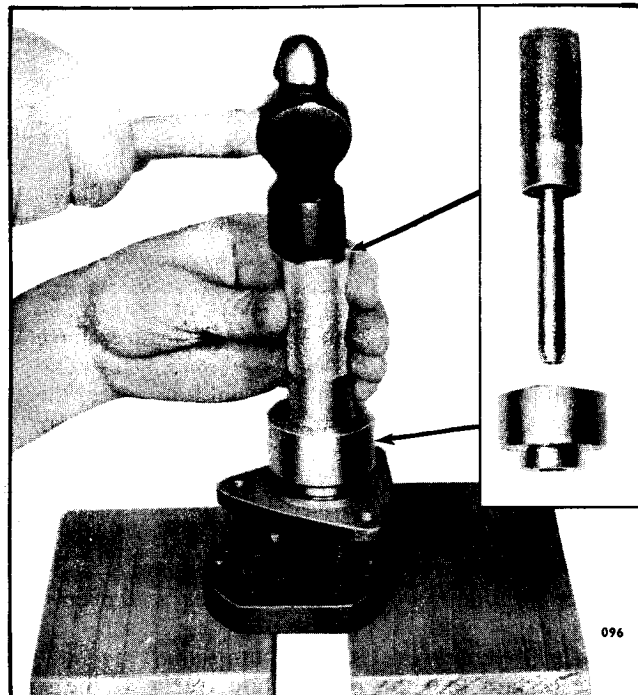

Fig. 8 - Installing Outer Oil Seal using Tools J 1508-8 and J 1508-9
- c. Place the shorter end of the adaptor J 1508-9 over the pilot and against the shoulder of the installer handle. Place the outer oil seal on the pilot of the installer handle with the lip of the seal facing the adaptor. Then insert the pilot of the installer handle into the pump body and drive the seal in (Fig. 8) until the shoulder of the adaptor contacts the pump body. Thus the oil seals will be positioned so that the space between them will correspond with the drain holes located in the bottom of the pump body.